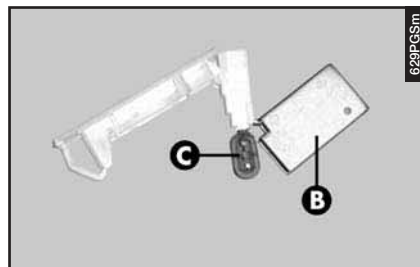

fig. 77
- Press the sides of the bulb screen (**B-fig. 77**) in correspondence with the two fastening pins and turn it.
- Change the bulb (**C-fig. 77**) which is pressure-fitted.